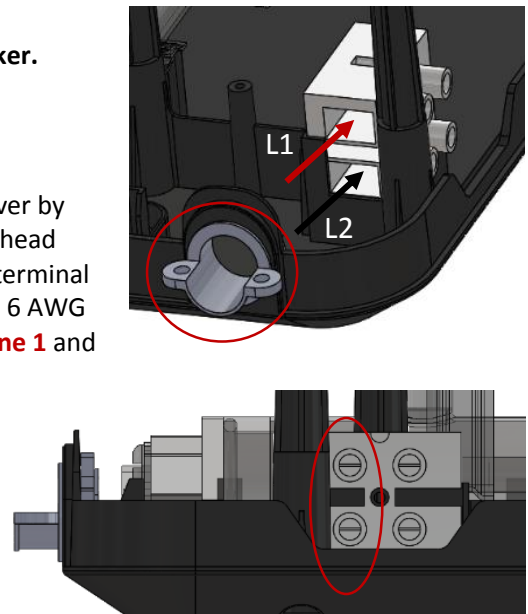

Figure 5
STEP 1: Make sure all electrical power is shut off. Remove the cover by unscrewing the 1 screw on the bottom tab of the unit. Using a flathead screwdriver, loosen the bottom two flathead screws in the white terminal block located at the bottom right hand corner of the unit. Feed an 6 AWG conducting wire pair through the electrical strain relief and into **Line 1** and **Line 2** of the terminal block (Figure 5). Make sure that the breaker is connected with one **red wire (Line 1)** and one **black wire (Line 2)**. Strip wire ends and ensure all wiring is properly secured through the electrical strain relief located at the bottom right when facing the unit. Tighten the two Philipshead screws on the electrical strain relief and the two flathead screws in the terminal block (Figure 5).